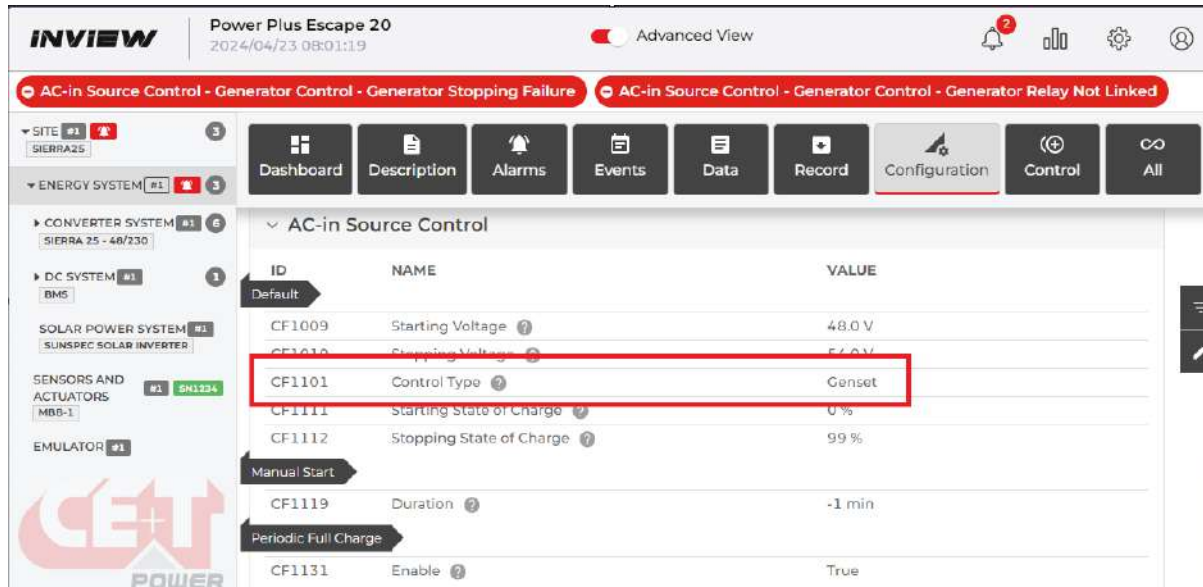

Figure 32- AC In Control Type
- 6- Assign CF1101 to either Grid or Genset. Please see Figure 32- AC In Control Type.